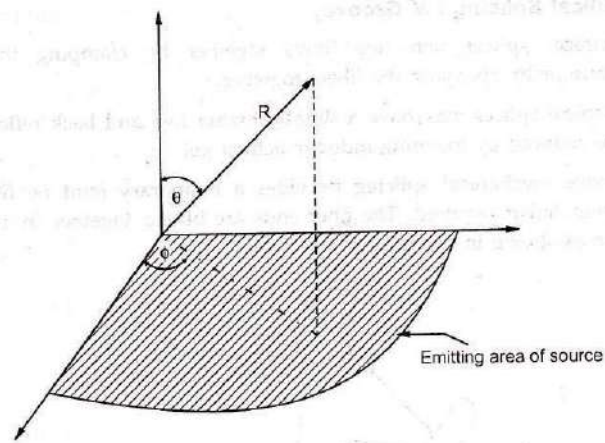

Fig. 4.3.1 Dimensional spherical co-ordinate system
11. Fig. 4.3.1 shows three dimensional spherical co-ordinate system for characterizing the emission pattern from an optical source. Where the polar axis is normal to the emitting surface and radiance is a function of  $\theta$  and  $\phi$ .